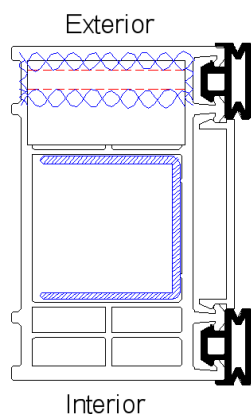

FIG 1.
- a) Identify the hinge jamb for stacking side and double gasket jamb side as per FIG 1 - 2.